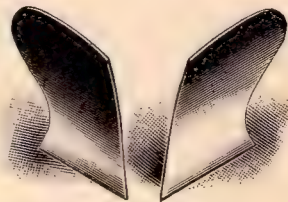

Fig. 117
The Plows (Fig. 117), Fallow tooth attachment (Fig. 140), Disc attachment (similar to Fig. 118) are each applicable to this cultivator. When ordering disc attachment for No. 70, order as No. 2. Equipped with Spring Hoes, Fig. 110, Page 25, add to list \$4.50.
**Fig. 117.** The **Plows** are made to fit any of our Riding Cultivators, except our No. 75, and they will do perfect work in turning earth away from the plant, in hilling up and for marking out rows. **Price, per pair, \$0.65.**
**The Plows** as shown in Fig. 117, page 25, can also be applied. Price, per pair, \$0.65